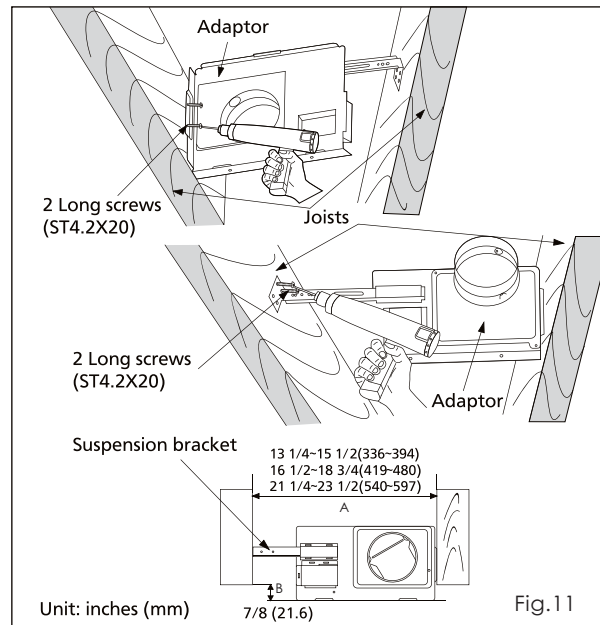

Fig.11
2. Insert the suspension bracket into the adaptor and secure it to joists by using long screws (ST4.2X20). (Fig.11)
3. Remove adaptor from fan body and secure it to joists as in Fig. 11 of page 9.